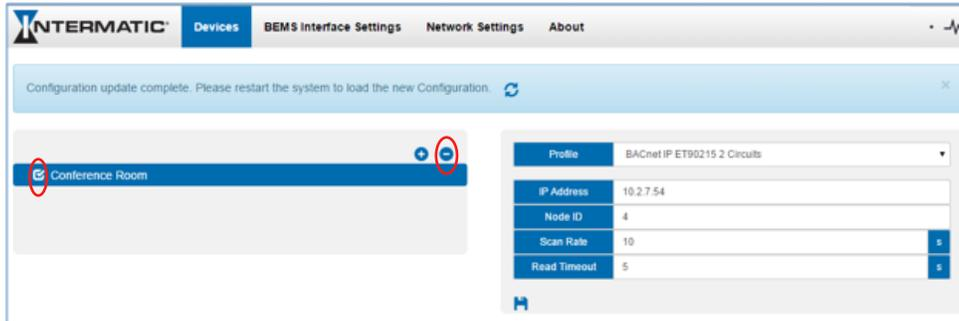

Figure 19: BEMS Interface Settings
- Once new IP Address has been entered, click on the newly highlighted button “Update Settings” (Figure 19).
- Check the profiles you want to delete then click the “-“ icon to delete. See **Figure 19**.